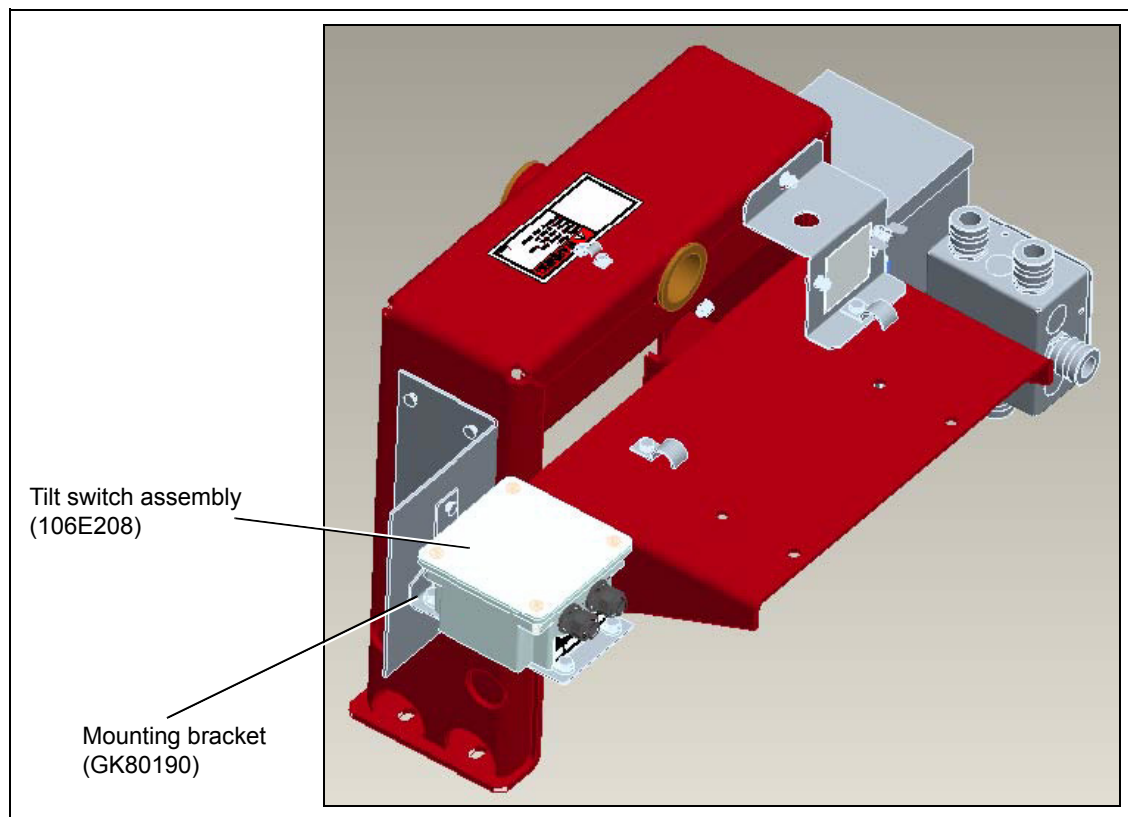

Figure 4
6. Mount new tilt switch and bracket on the vertical side of the end yoke, opposite of the fuse holder box. *(See Figure 4.)*